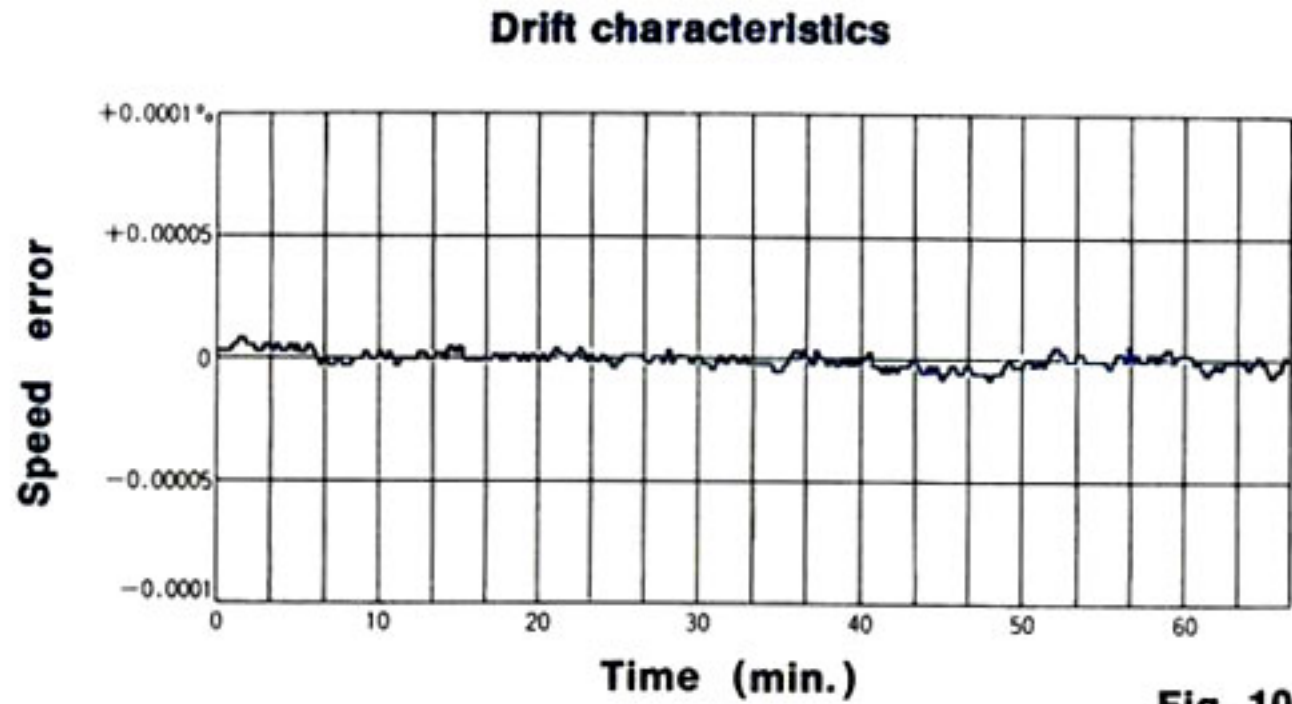

Fig. 10
① QUARTZ CONTROLLED ROTATION ACCURACY (Fig. 10)
The accuracy under normal operating conditions such as in a listening room is about $\pm 0.00001\%$ as shown in Fig. 10.